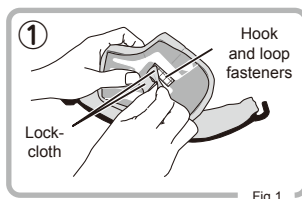

Fig.1
- ① Remove the "lock-cloth" at the back side of the cheek pad from the hook and loop fasteners. (Fig.1)